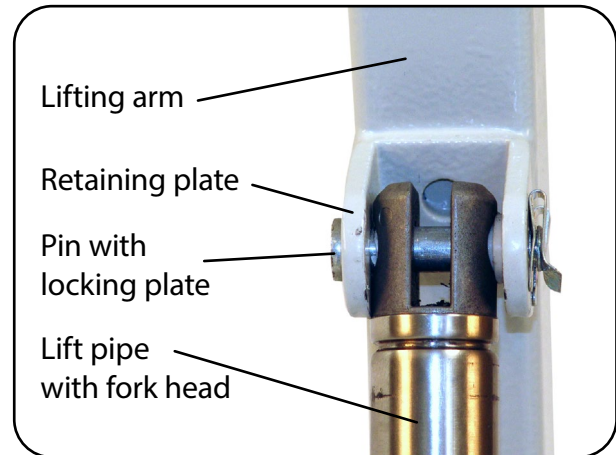

Fig. 13.2.01 – Retaining plate on lifting arm
2. Remove the locking plate and the pin that fastens the lift drive to the lifting arm's retaining plate (Fig. 13.2.01). Swivel the lift drive forwards and mount the pin with the locking plate on the retaining plate.